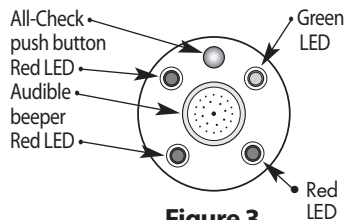

Figure 3
- 1C) Push and hold the test button on the inside of the polycarbonate housing to operate the All-Check self-test procedure. Three red (alarm) LED lights will flash and the buzzer will beep. After release of the button, the green LED light will illuminate for approximately two (2) minutes. The unit is ready for operation. (Figure 3)